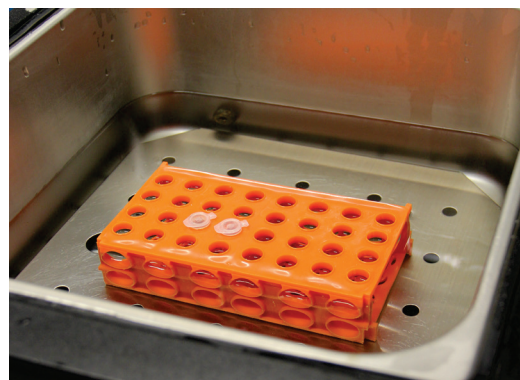

Fig. 22
22. Incubate all the tubes in a 37°C water bath for 30 minutes (Fig. 22).